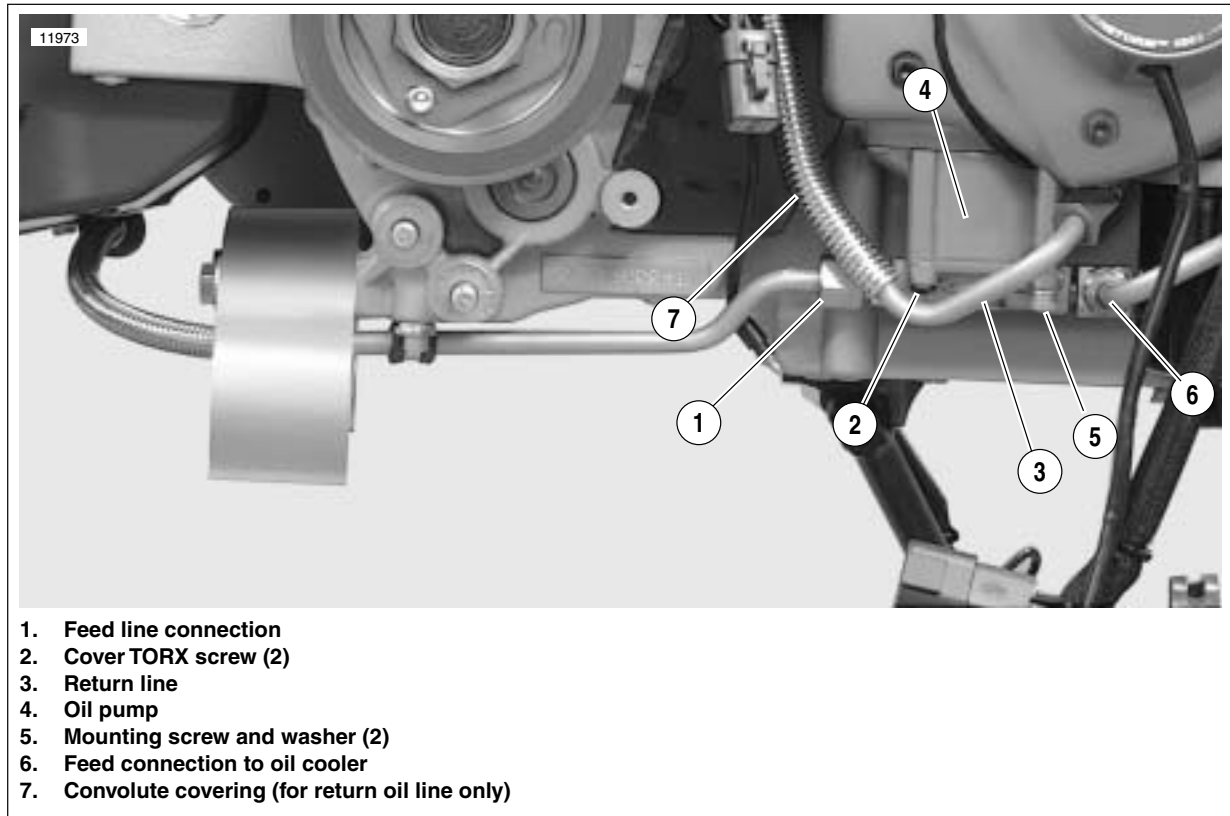

Figure 3-119. Oil Pump Hardware
4. See Figure 3-119. Disconnect feed line connections (1, 6) on both sides of the oil pump.
5. Detach return line connection (3).
6. Carefully remove mounting screws (5) and washers only. Pump will drop with screws removed. Discard mounting gasket.
7. Remove cover TORX screws (2). Lift cover off body.